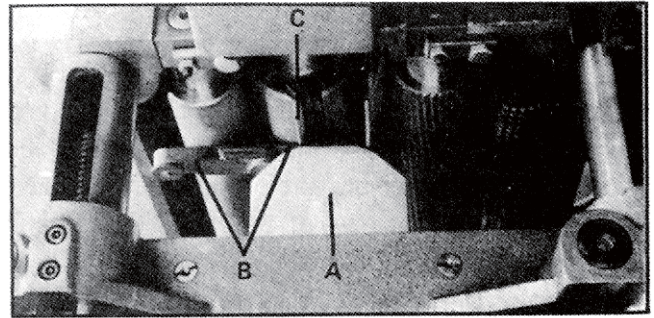

Fig. 32
3. Place the gage block (A) Fig. 32, on the table directly underneath the cutterhead, as shown. Using a 0.40" feeler gage (B) Fig. 32, placed on top of the gage block, raise or lower the head until the knife (C) just touches the feeler gage when the knife is at its lowest point. Do not move the head any further until the chipbreaker is checked and adjusted if necessary.